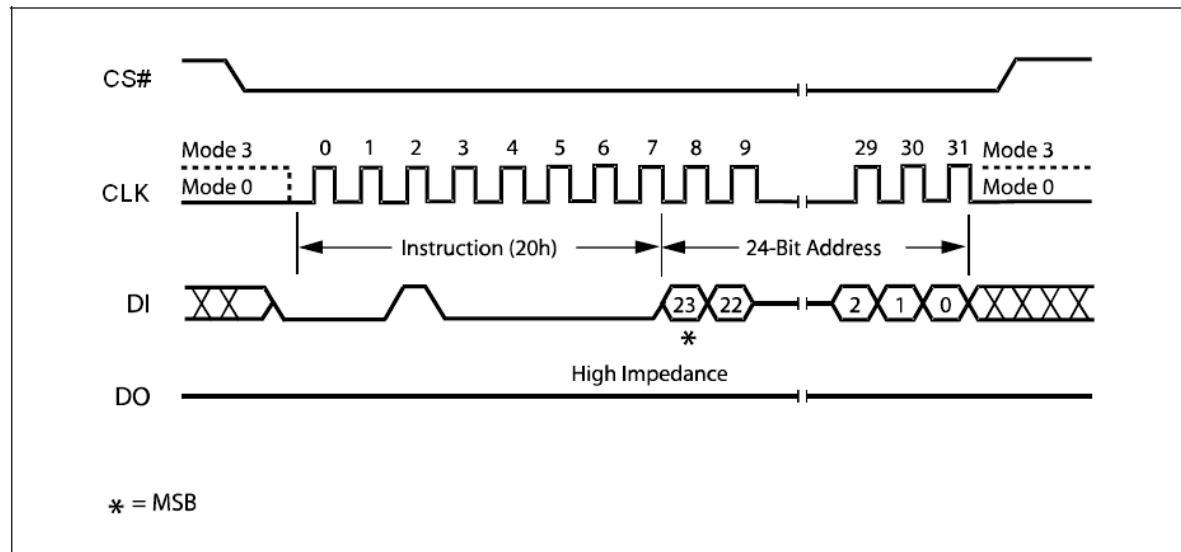

Figure 18. Sector Erase Instruction Sequence Diagram
The instruction sequence is shown in Figure 18. Chip Select (CS#) must be driven High after the eighth bit of the last address byte has been latched in, otherwise the Sector Erase (SE) instruction is not executed. As soon as Chip Select (CS#) is driven High, the self-timed Sector Erase cycle (whose duration is  $t_{SE}$ ) is initiated. While the Sector Erase cycle is in progress, the Status Register may be read to check the value of the Write In Progress (WIP) bit. The Write In Progress (WIP) bit is 1 during the self-timed Sector Erase cycle, and is 0 when it is completed. At some unspecified time before the cycle is completed, the Write Enable Latch (WEL) bit is reset.